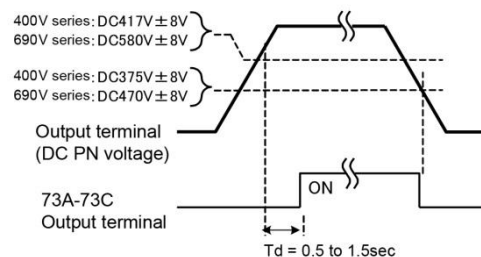

Figure 6.2.4-1: 73A - 73C signal timing chart
*2 Terminals U1 and U2 can be switched as shown in Figure 6.2.4-2.
*4 Refer to Figure 6.2.4-1 for timing chart of output signal, and DC PN voltage at signal output.